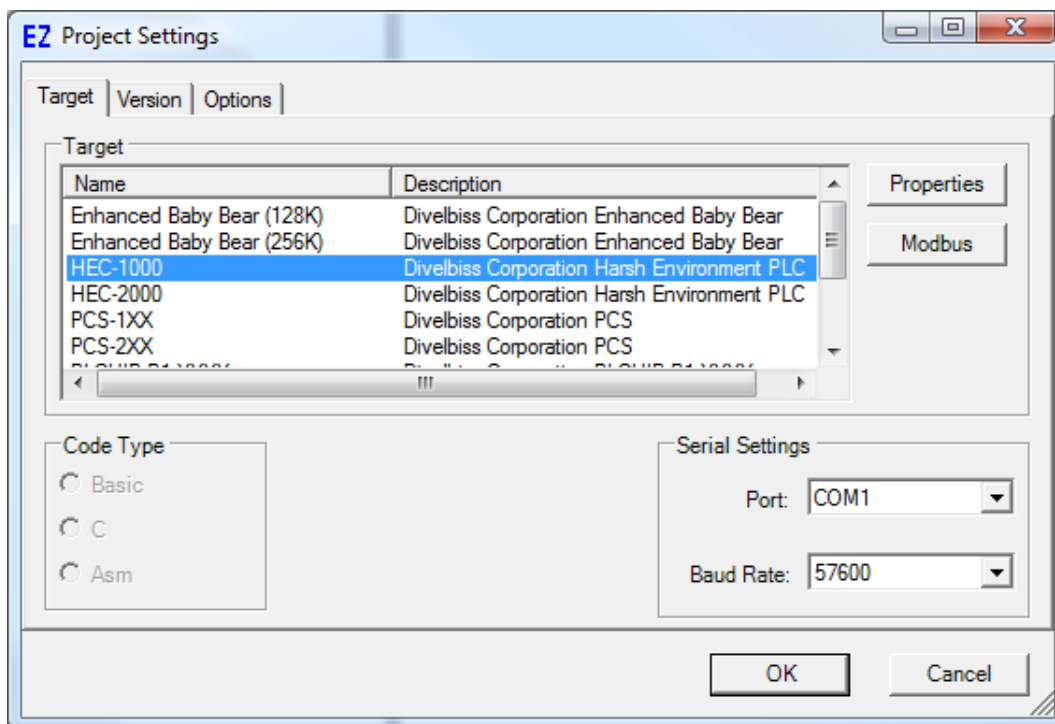

Figure 1.1 - Project Settings Window
1. In EZ LADDER, from the File Menu at the top, click **PROJECT** then **SETTINGS**. This will open the Project Settings Window. Select **HEC-1000** as the target from the choices. Refer to Figure 1.1.